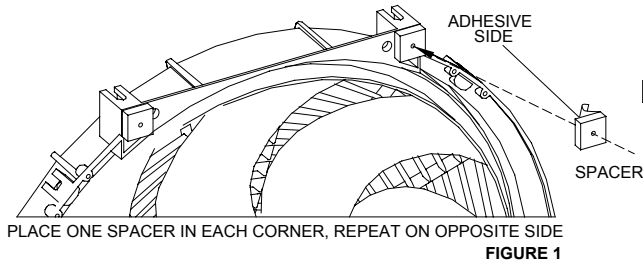

FIGURE 1
2. Peel backing and stick 4 spacers on fan shroud as shown in **Figure 1**. Install the remaining 4 spacers on the tie straps as shown.